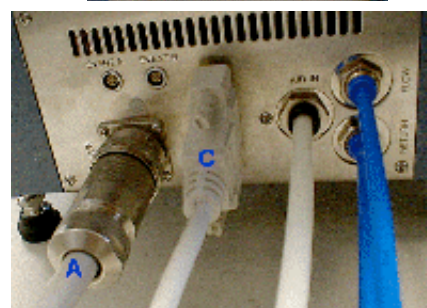

Figure 5.4
The Electronics Control Box forms the link between the rheometer and the computer. All the required processing is done within the control box. The following steps should be followed to connect the two units together (refer to Figure 5.4).
1. Push the 9-pin female connector into the 9-pin socket marked 'Computer' on the back plate of the controller (Cable B, Figure 5.4).
Refer to Figure 5.4 on the previous page for information on the location of the relevant connections in the instructions below.